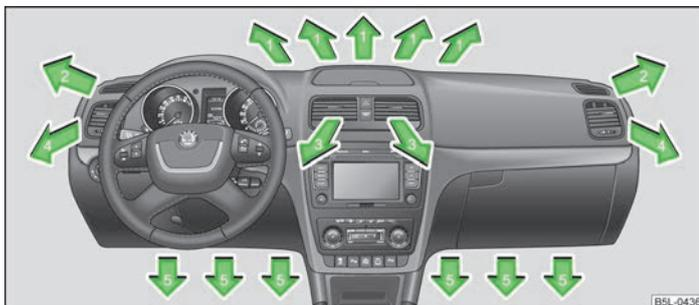
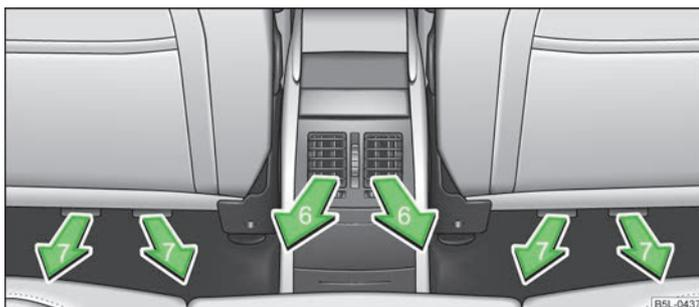

Fig. 87 Air vents at the front
Fig. 88 Air vents at the rear
- › Turn the horizontal wheel (to the right) » Fig. 87.
- › Turn the vertical wheel (between the settings) » Fig. 88.
The air outlet vents 3, 4 » Fig. 87 and 6 » Fig. 88 can be closed and opened individually.
- Air outlet vents **4** » Fig. 87 on page 81.
- We recommend that you leave the air outlet vents **3** » Fig. 87 on page 81 in the opened position.